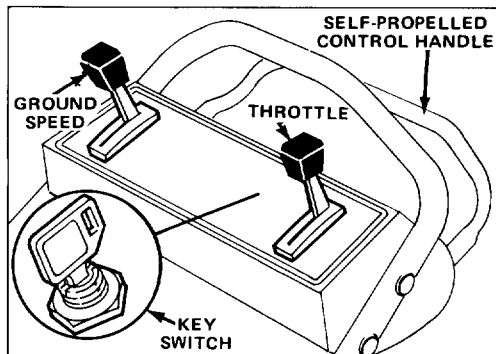
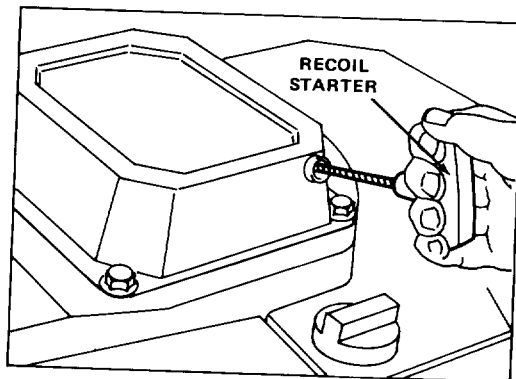

Figure 9
Figure 10
1. **CONTROLS** — Key switch, throttle, ground speed control and blade/self-propelled control bar are on upper handle (Fig. 9). Recoil starter is on top of engine.
2. Push spark plug wire onto spark plug and move ground speed control to "N" (Fig. 9).
3. **KEY-ELECTRIC STARTING** — Move throttle (Fig. 9) to CHOKE. Turn key (Fig. 9) to START and release when engine begins running. Regulate throttle as desired. If battery is discharged, engine can be started with the recoil starter (Fig. 10).
4. **MANUAL STARTING** — Move throttle to **CHOKE**. Pull engine mounted recoil starter out until positive engagement results; then pull vigorously to start the engine (Fig. 10). Regulate throttle as desired when engine starts.
7. **STOPPING** (Fig. 9) — Release control bar to stop blade and traction drive. Move ground speed control to "N". To stop engine, move throttle to OFF. Remove key from switch or pull wire off spark plug if mower is unattended or not used.